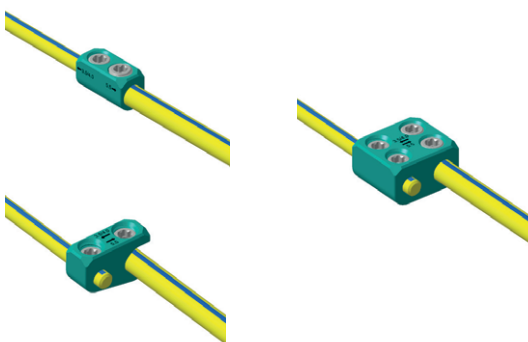
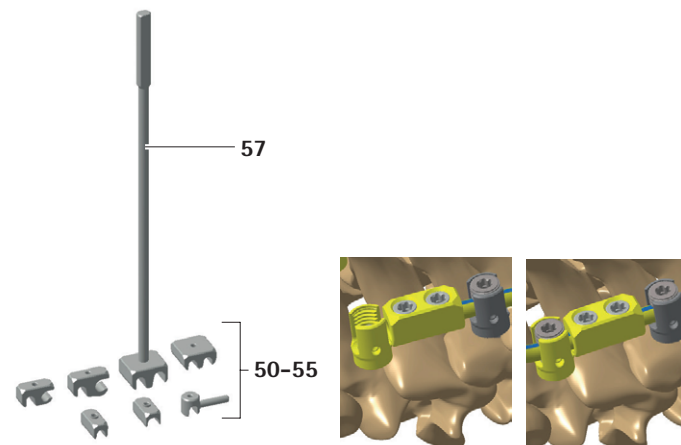

Fig. 49
Fig. 50
Domino connectors allow to connect an existing spinal rod construct to a new spinal rod construct. Axial domino connectors connect 2 rods in the same alignment, lateral domino connectors connect 2 parallel laterally offset rods, see Fig. 49, see Fig. 50.
► Use connector templates **50** to **55** (SZ030R to SZ035R) to help in choosing the domino connector that fits the patient's anatomy, as shown on the left side of the image, see Fig. 50.
► Use handle **57** (SZ039R) to help insertion of the templates, see Fig. 50.